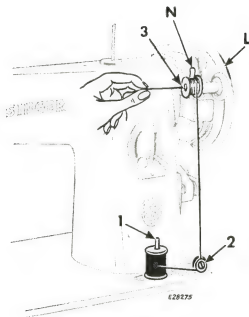

Fig. 11. Winding the Bobbin
See Fig. 11
2. Lock bobbin in place by pressing bobbin winder down until latch N, Fig. 11 engages.
5. Hold end of thread as shown in Fig. 11 and press controller as for sewing. Continue to hold end of thread until it breaks off.
If pressure of bobbin winder pulley against hub of hand wheel is insufficient for winding the bobbin, press down bobbin winder until latch N, Figs. 11 and 12 drops and holds it in position.
screw **O**. If thread does not wind evenly on bobbin, loosen screw which holds tension bracket **2**, Fig. 11 in position.